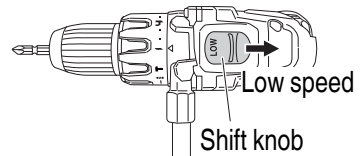

**Fig. 8**
The bit rotates clockwise (viewed from the rear side) by pushing the R-side of the selector button. The L-side of the selector button is pushed to turn the bit counterclockwise. (See **Fig. 8**) (The (L) and (R) marks are provided on the push button.)